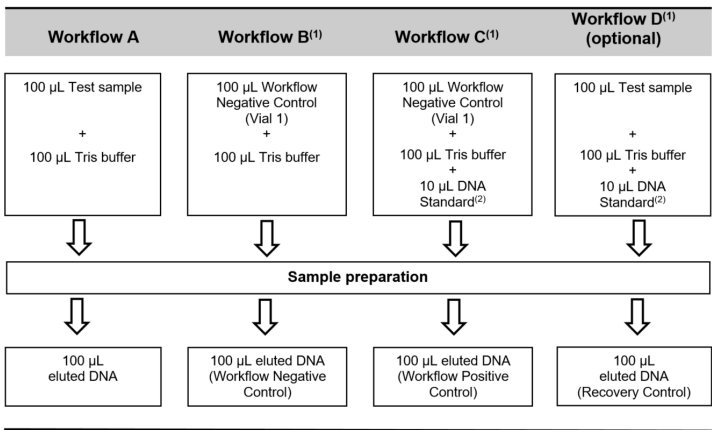

Fig. 1: Experimental overview of the sample preparation.
Figure 1 describes the protocol for preparing DNA from 100 µL test sample. Use Workflow A for each test sample to be analyzed.
- 2 Label 4 Reagent Vials# for each workflow according to Figure 1.
- 4 Add 220 µL of the Poly(A) working solution, see section, **Working Solution, Step 3**, to each Reagent Vial.